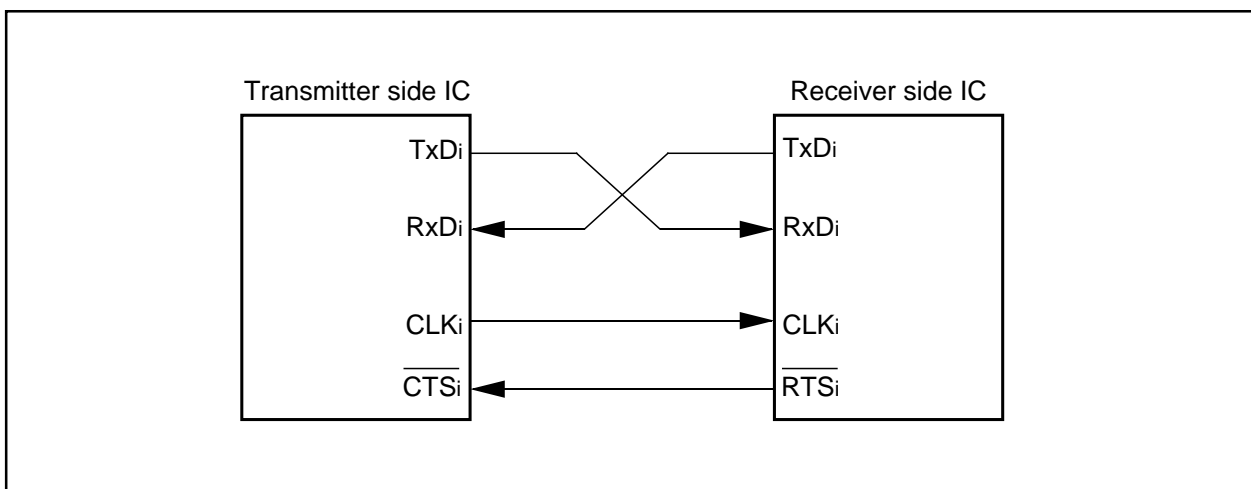

Figure 2.3.11. Example of wiring
- (1) With an external clock selected, and choosing the $\overline{\text{RTS}}$ function, the output level of the $\overline{\text{RTS}}_i$ pin goes to “L” when the data-receivable status becomes ready, which informs the transmission side that the reception has become ready. The output level of the $\overline{\text{RTS}}_i$ pin goes to “H” when reception starts. So if the $\overline{\text{RTS}}_i$ pin is connected to the $\overline{\text{CTS}}_i$ pin on the transmission side, the circuit can transmission and reception data with consistent timing. With the internal clock, the $\overline{\text{RTS}}$ function has no effect. Figure 2.3.11 shows an example of wiring.